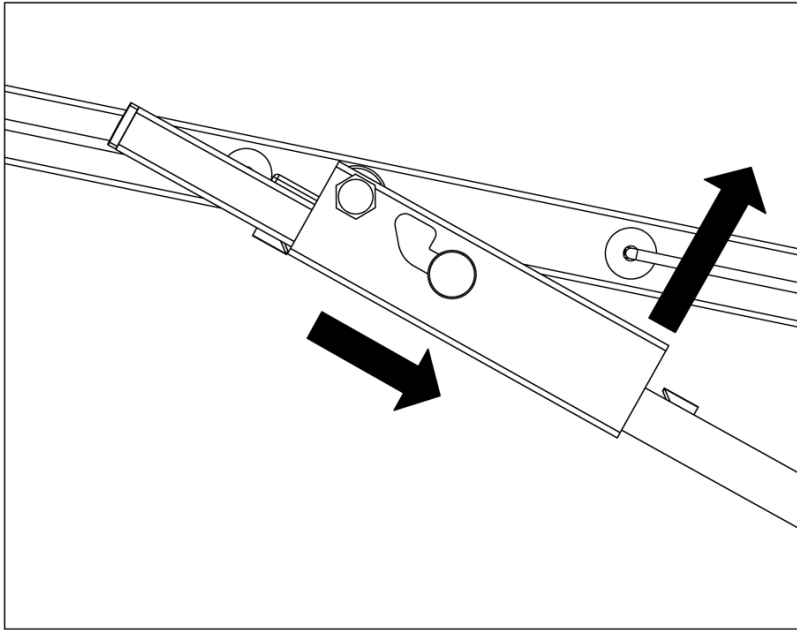

Fig 12. Catch rotating allowing catch slider to drop.
- The catch will grab onto the lower protrusion and rotate upwards allowing the catch slider to slide down the slot. (Fig.12)